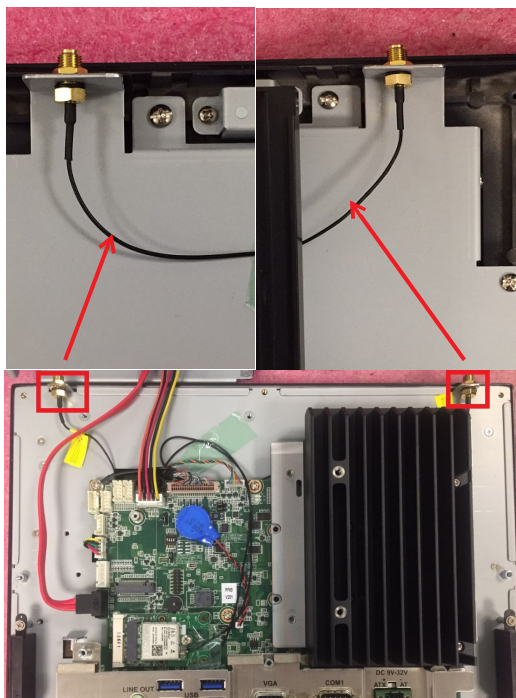

Figure 2.18
2. Connect the wireless LAN card module cable to the antenna bracket, please note the installation direction of cable end and screws/cushions (see Figure 2.18).